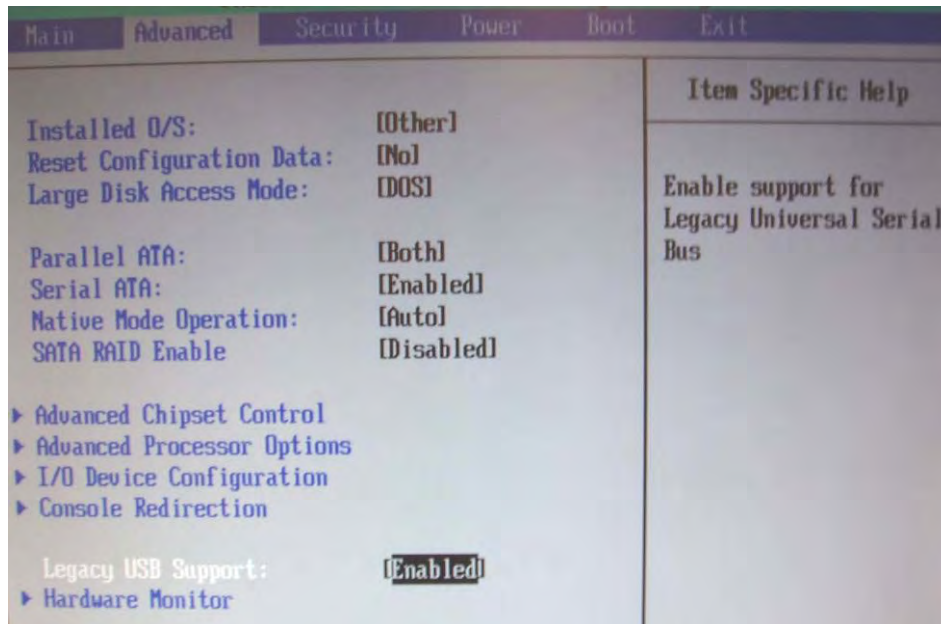

Figure 1-102. Select Legacy USB Support
4. Select **Advanced** on the menu bar (Figure 1-102).